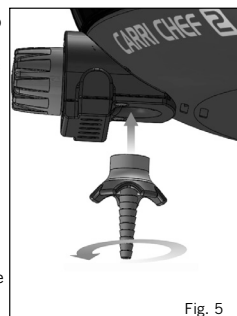

Fig. 5
- **NOTE!** When installing the tailpiece, ensure it is held straight while tightening the tailpiece nut, in order to prevent a possible gas leak. Tighten with a suitable spanner. (Fig. 5)
- I 3B/P (30), I 3B/P (37) and I 3+ (28-30/37) Appliance categories: Fit the valve tailpiece onto the valve by screwing it on in an anti-clockwise direction. Push an approved hose onto the valve tailpiece until it is properly seated. On the other end, attach a suitable low pressure regulator (I3B/P (30) : 30mbar Butane/Propane configurations regulator; I3+(28-30/37): 30mbar Butane regulator or 37mbar Propane regulator); I3B/P(37): 37mbar Butane/Propane configurations regulators). Again making sure that the hose is well seated. The type of hose used shall comply with the relevant EN standard and locate requirement. In South Africa the regulator used must comply with SANS 1537.
- I 3B/P (50) Appliance category: Screw a Hose with the correct threaded fittings on each end, onto the left hand ¼" BSP thread of the Valve. Attach a suitable 50mbar low-pressure regulator on the other end of the hose. The hose assembly used must comply with DIN 4815 part 2 or equivalent.